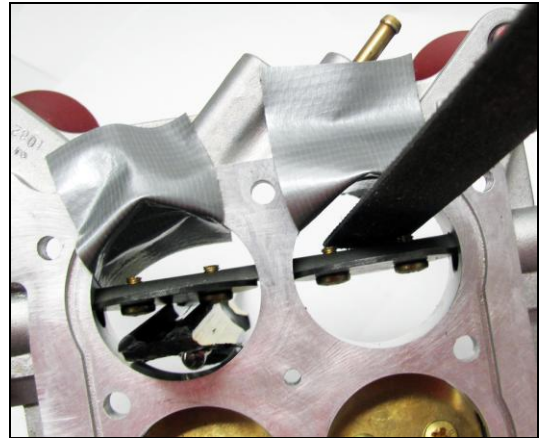

Figure 4
6. Using a fine/medium tooth file, begin by filing the end of the throttle plate screw using firm and even strokes (Figure 4). File away enough of each screw, so that the ends are flush with the throttle shaft. When all four screws have been filed down flush with the shaft, remove the throttle body from the vise, take out the wood wedges from the bores and remove the throttle plate screws. **DO NOT** remove the duct tape yet.